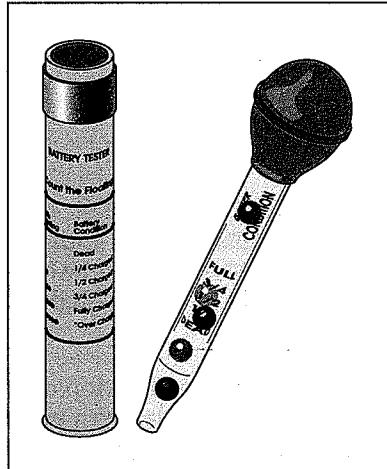

Figure 3-7:
- 8. If you've been having trouble starting your car, if your headlights seem dim, or if the battery is old and has bars or caps that you can remove and look inside, buy a battery tester (see Figure 3-7) and use it to check whether the battery acid concentration is high enough.**